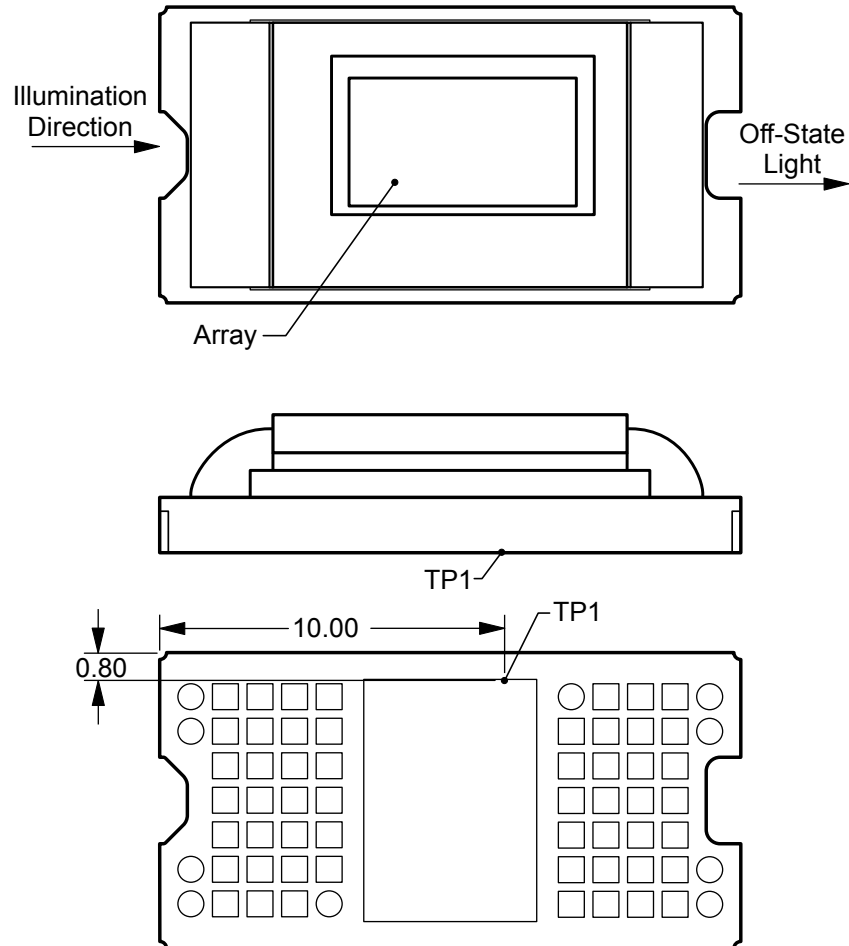

图 7-8. Thermocouple Location
Relationship between array temperature and the reference ceramic temperature (thermocouple location TP1 in 图 7-8) is provided by the following equations.
- T_{CERAMIC} = measured ceramic temperature (TP1 location in 图 7-8) (°C)